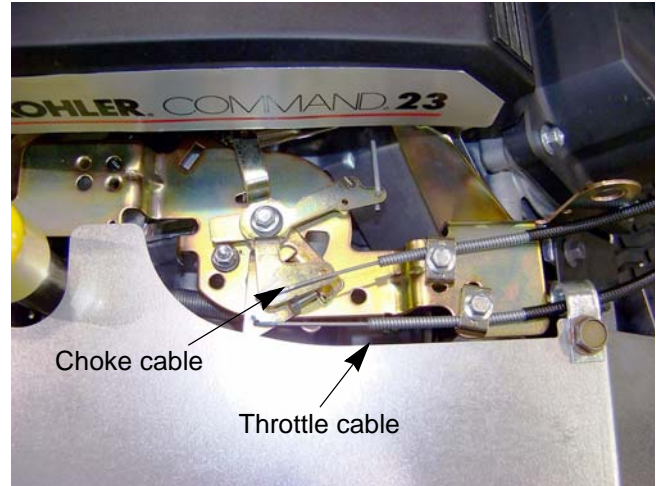

Figure 2.13
2. Operate the throttle lever while observing its direction of movement. See Figure 2.13.